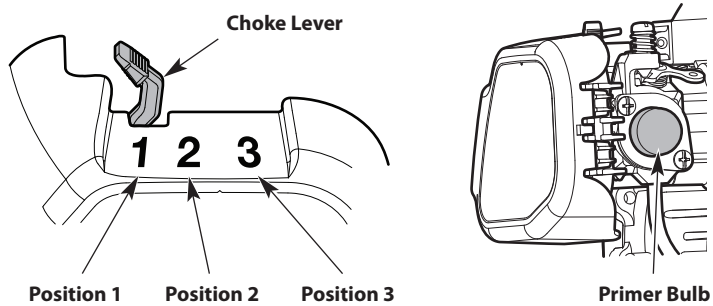

Fig. 13
1. Slowly press and release the primer bulb **10 times** (Fig. 13). If fuel cannot be seen in the primer bulb, **press and release the primer bulb until fuel is visible**.
2. Move the choke lever to **Position 1** (Fig. 13).
6. Move the choke lever to **Position 2** (Fig. 13).
9. Move the choke lever to **Position 3** (Fig. 13). Allow the engine to warm up for an additional 60 seconds. The unit may be used during this time.